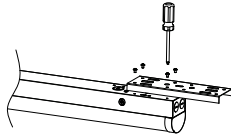

Figure 9
- Step 1. Use the screws in the accessory kit to lock the bracket onto one lamp (figure 9)